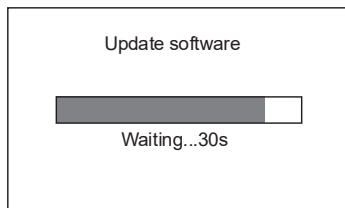

Figure 1-3
3. With the preheater in the Power Off state, press and hold and turn on the Power Switch. You will enter the Software Update prompt interface (Figure 1-3).